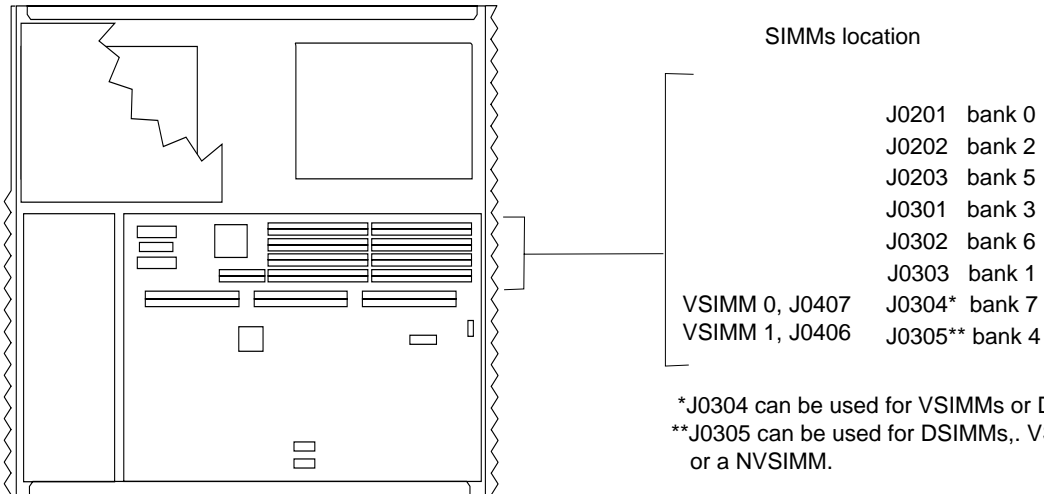

FIGURE 11-25 SIMM Slot Locations
Each NVSIMM contains 2 Mbytes of memory, a battery, and power controller circuitry to ensure memory is not lost when the system is shut down or halts because of abnormal conditions. The NVSIMM is a card with a round, non-replaceable battery mounted on one side. The NVSIMM plugs into a memory slot located on the system board. FIGURE 11-25 shows the battery side of the NVSIMM.
Refer to FIGURE 11-25 and proceed as follows:
- Locate the SIMM slots on the system board (FIGURE 11-25).